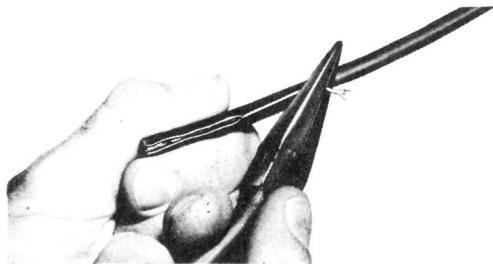

FIGURE 2 - SLITTING OUTER JACKET, USING SLITTING CORD
- (b) Grasp the slitting cord firmly between the flat jaw portions of the long nose pliers and slit the outer jacket back approximately 4 inches from the end of the wire as shown in Figure 2. Remove the slit portion of the jacket, using the diagonal pliers.